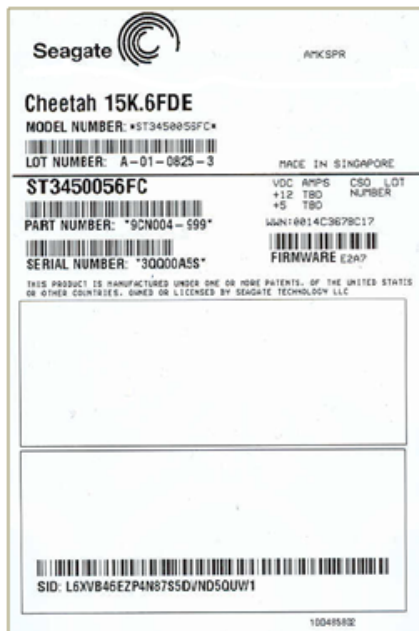

Figure 8. Sample drive label
- Is printed in readable format on the base of the drive label as shown in Figure 8.